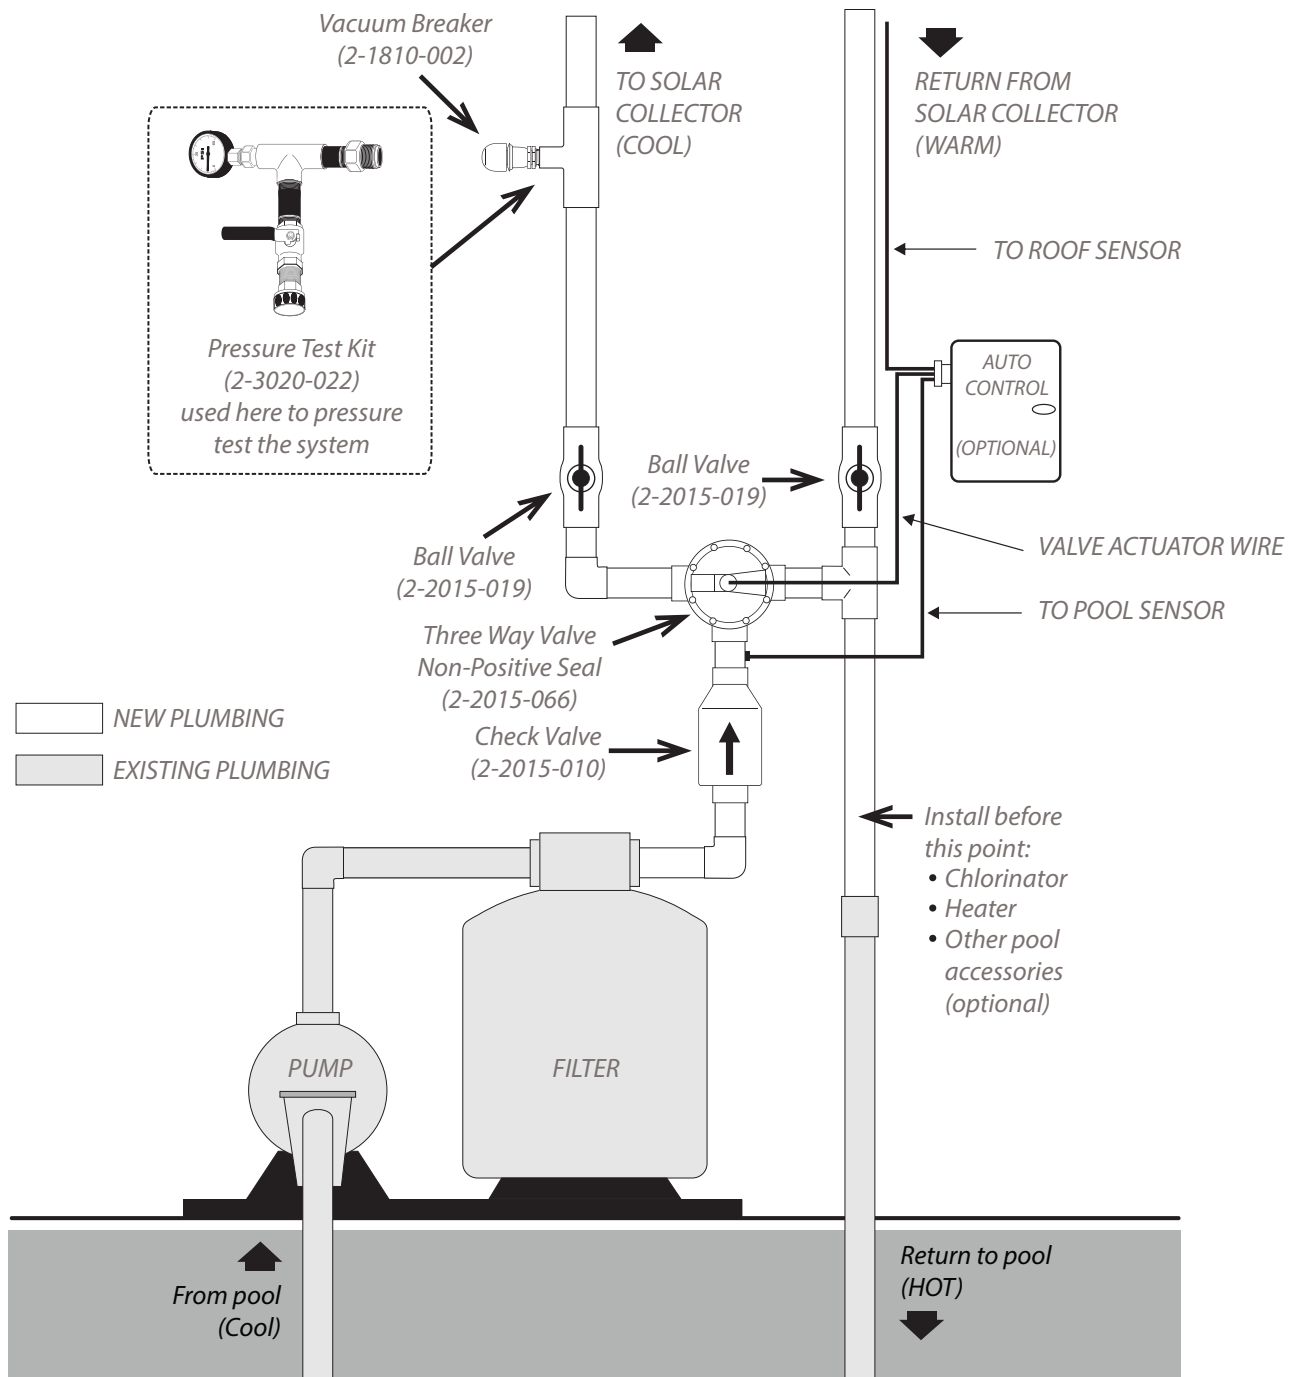

Fig. 13.1
2. Determine where the feed and return pipe will go over the edge of the roof. If possible, this should be perpendicular to the exact points where they will fasten into the existing system or into pipes coming from another location (see Fig. 13.1, page. 24).
Fig. 13.1 on page 24 shows how a typical SunValue solar pool heating system is plumbed into existing pool plumbing. This drawing may not be just like every system you encounter; the feed and return plumbing on a solar system may be reversed, or it may be a different type of filter, or it may have additional equipment such as a chlorinator, pool cleaner, gas heater, etc. It may also have a long run of plumbing from the pool equipment to the solar collectors.
Whether the system is like this or not, Fig. 13.1 will help you understand the flow of water from the pool, through the pump, filter, solar system, and back to the pool. Study the diagram and become familiar with the valves needed to connect the solar collectors to existing plumbing.
- 1.** Study the plumbing after the filter and decide where you are going to install the check valve and the PVC tee fitting (see Fig. 13.1). If you have auxiliary equipment, you may need to re-plumb a portion of your existing plumbing so this equipment is located after the solar system as indicated in Fig. 13.1.
- 2.** Cut the pipe after the filter where you have decided to locate the check valve and where your solar return pipe will attach to your existing pool return line. If your pool plumbing is 1-½", and you are running 2" plumbing to your solar system, you should be using 2" valves and piping for all of your new plumbing. Therefore you will need (2) 2"x1-½" reducer bushings to adapt your new 2" fittings to the existing 1-½" pipe.
- 6.** Install the (2-1810-002) vacuum breaker about 4' up the feed line and above the top of the filter using a PVC tee and reducer bushing. Face the tee to the outside as shown in Fig. 13.1. Wrap the threads of the vacuum breaker with Teflon tape and screw it into the ¾" threaded reducer bushing.